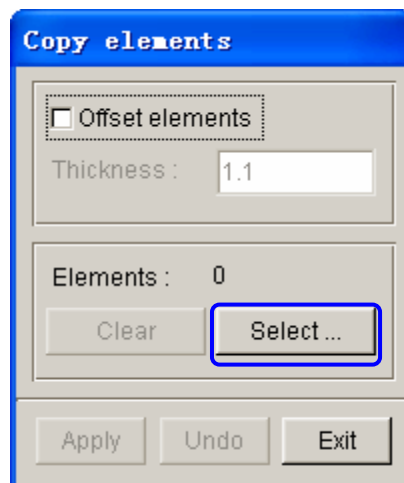

Figure 1.20 Copy Elements dialog box
- Then, click **Copy Elem...** button from the dialog box to display the COPY ELEMENTS dialog box illustrated in Figure 1.20.